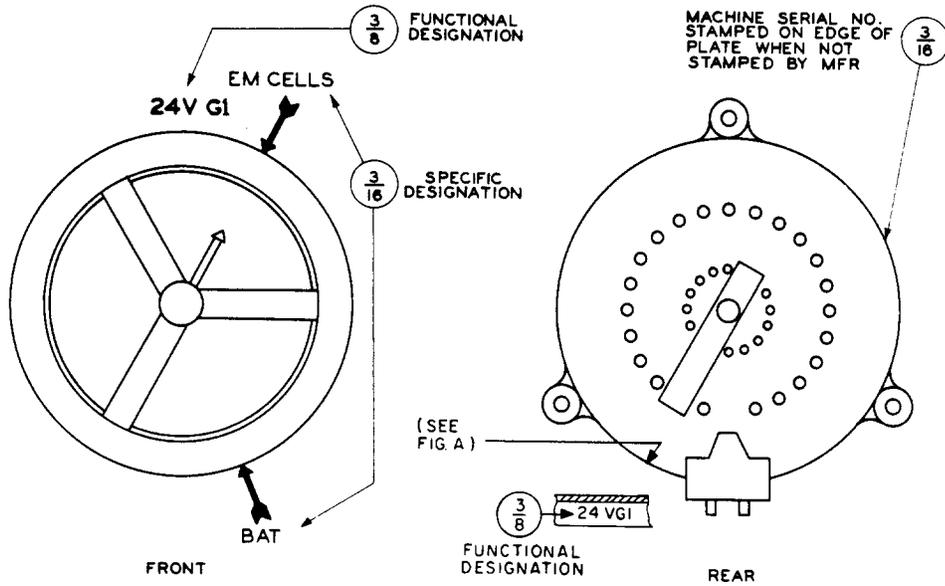

Fig. 34 - Handwheel and Field Rheostat
2.40 For handwheels of machines arranged for automatic regulation, see 2.56 and Fig. 34.
2.56 At rheostat handwheels for machines arranged for automatic regulation, the positions of pointers for both battery and emergency cell charge shall be marked on the front of the board as shown in Fig. 34. Mark rheostat flange as shown.